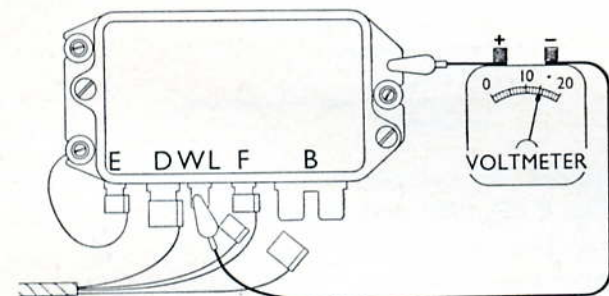

Fig. P.30. Voltage regulator, open circuit setting
2. Connect the negative lead of the voltmeter to the controller 'D' terminal. A convenient method of making this connection is to clip the lead to terminal 'WL' which is common with terminal 'D'. This necessitates withdrawing the ignition/generator warning lamp feed wire. Connect the positive lead to earth (Fig. P.30).